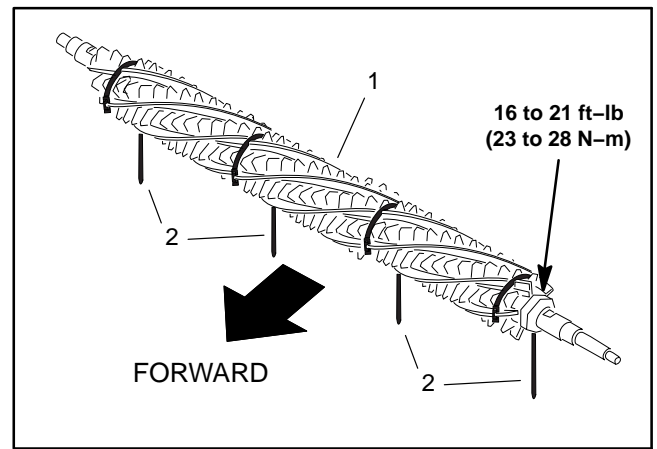
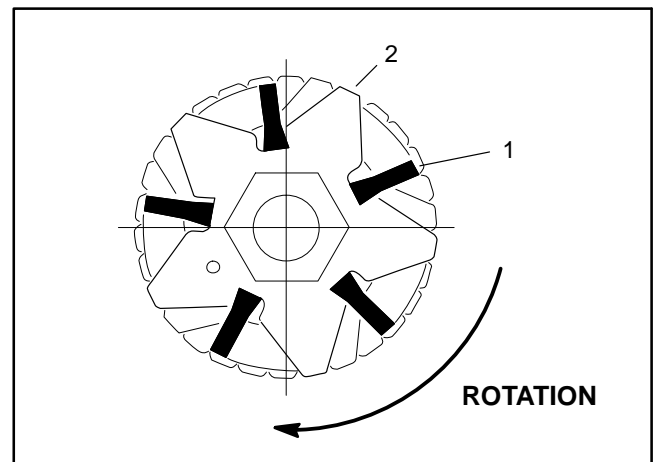

Figure 11
Figure 12
4. If groomer reel is equipped with broomer kit (Fig. 11), remove straps and broomer brushes from reel.
B. Slide a brush into each groove around the full length of the groomer reel (Fig. 11). Make sure brushes are seated in groomer blade slots (Fig. 12)
C. Loosely wrap the straps around the groomer reel shaft and brushes as shown (Fig. 11). Straps should be positioned in the pre-cut notches of each brush and at the following locations on the broomer shaft: